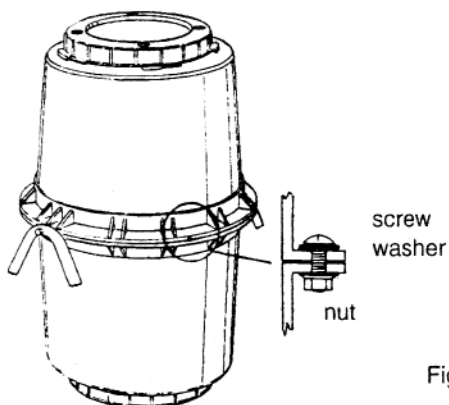

Fig. 3
3. Assemble drum by placing second half on top of first half making sure to locate bearing grooves. Join drum halves together using drum joining assembly (E) 16 of supplied, see Fig. 3. Fit 16 screws with washers in holes before adding and tightening nuts.